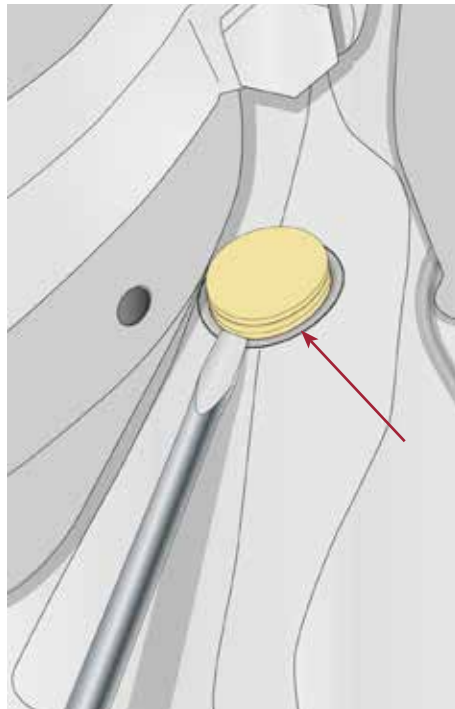

Figure 136: Remove Adjuster Plug Without Damaging Boot
2. Carefully remove the adjuster plug from the back of the calliper. Ensure that you do not to damage the surrounding adjuster boot. Refer Figure 136.